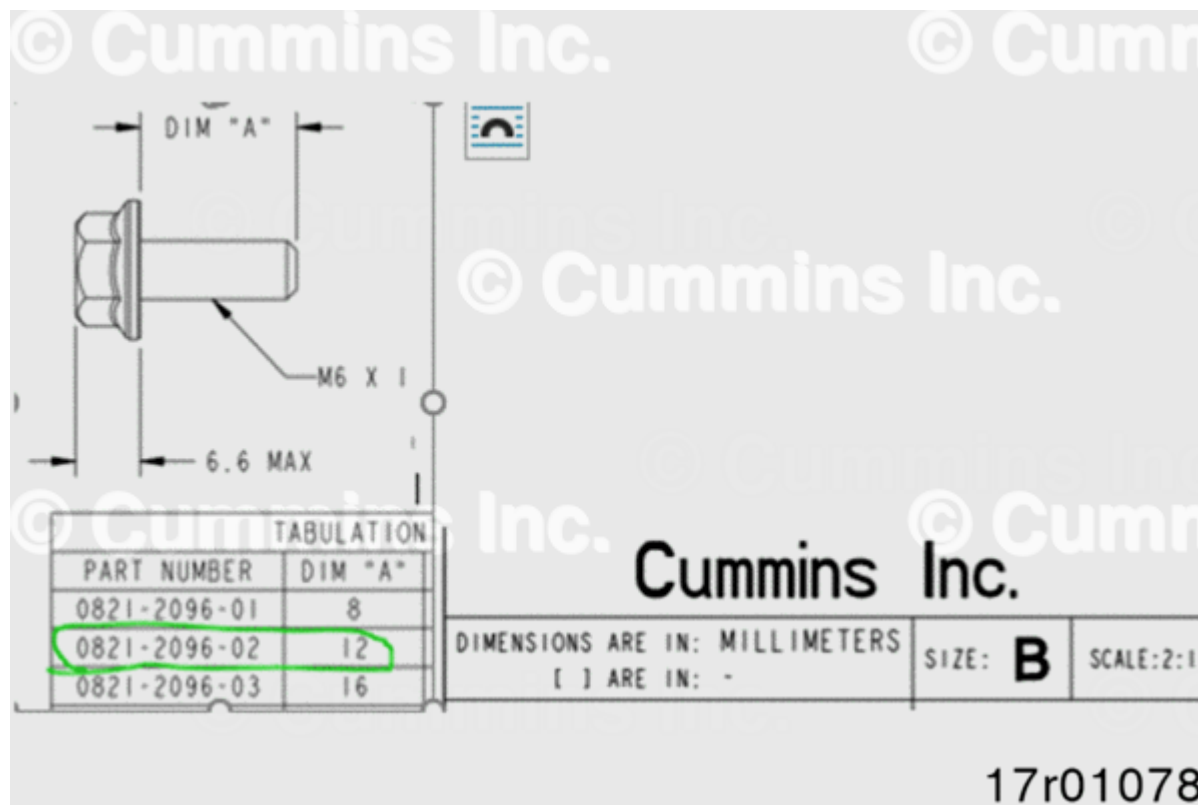

Figure 2, Screw Measurement
2. Measure the length from the bottom of screw head to the end of the threads. See Figure 2 below.